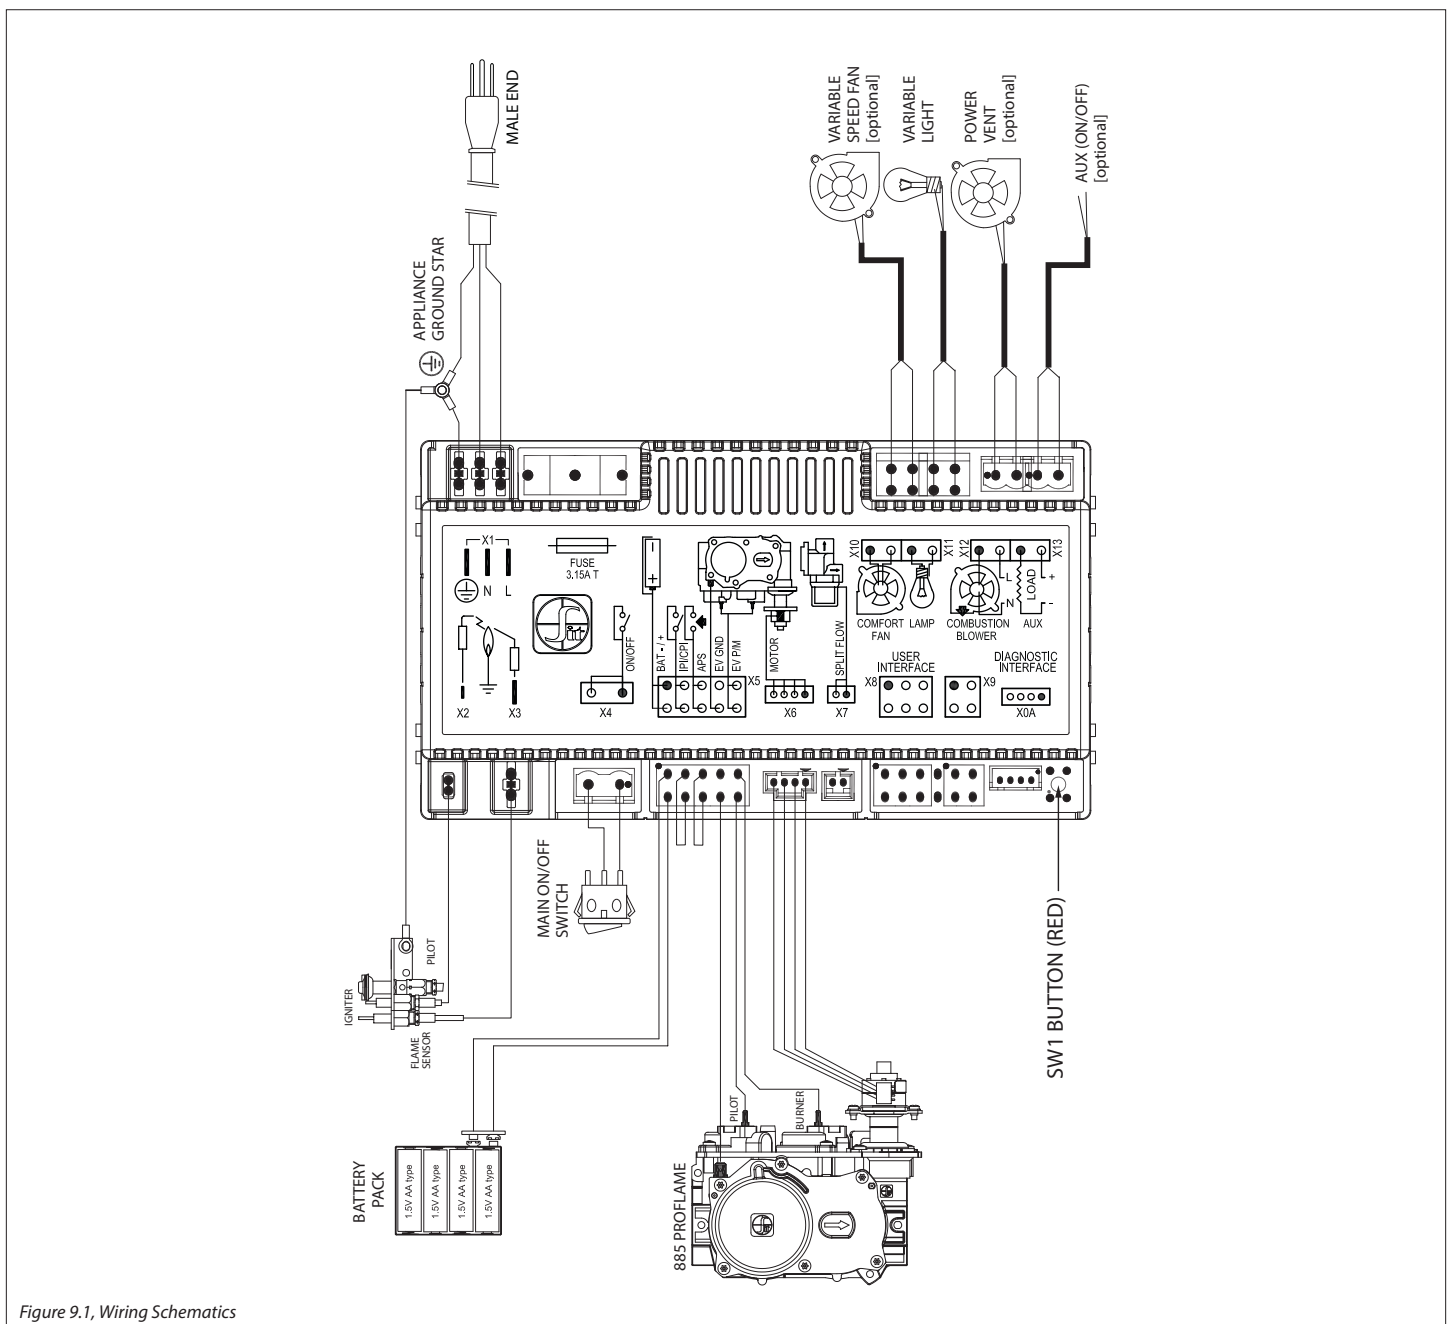

Figure 9.1, Wiring Schematics
9. Plug the fan cord into the receptacle on the IFC control module. See Figure 9.1 on page 51.